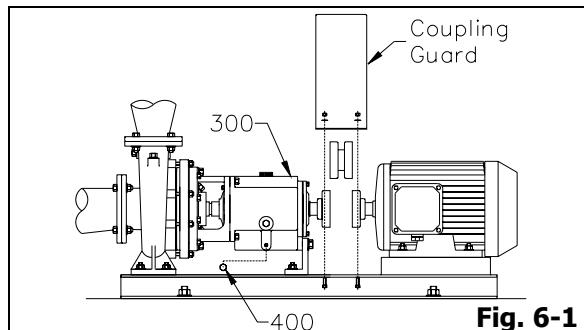

Fig. 6-1
- Drain oil from bearing frame (300) by removing bearing frame drain plug (400). Replace plug after oil is drained (Fig. 6-1).